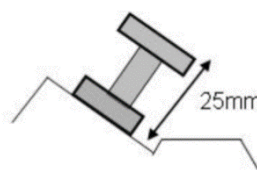

Figure 19 - Cam Follower Tappet Screw
20.14 Check cam follower tappet screws do not protrude more than 25mm (See Figure 19).